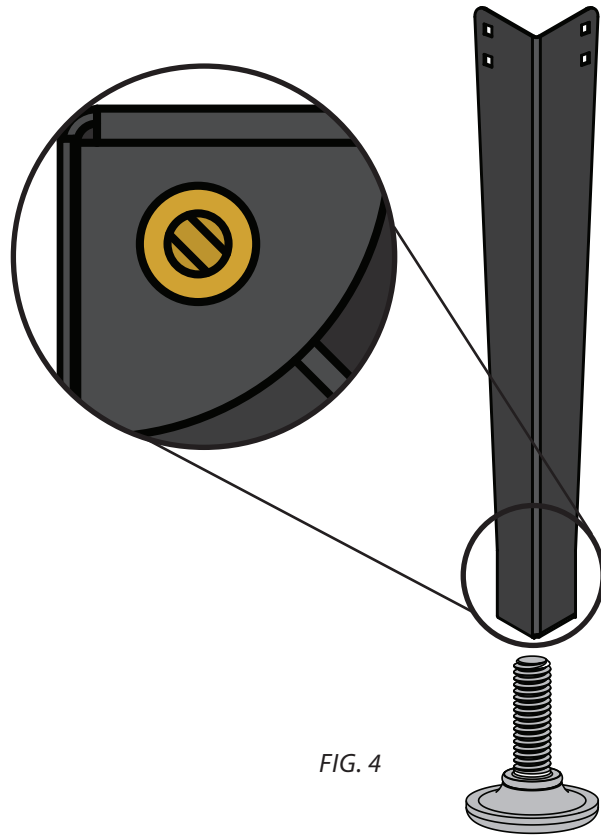

FIG. 4
Install a Mounting Foot (H17) into the threaded insert located on the bottom of each Stand Leg (G) [FIG. 4].